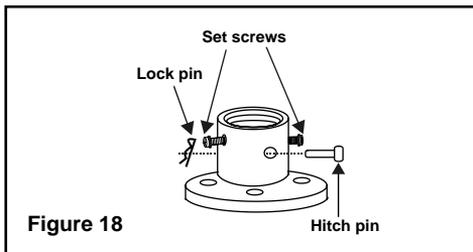

Figure 18
Step 1. Loosen the two set screws in the top coupling of the motor assembly. Remove the hitch pin and lock pin. (Fig. 18)